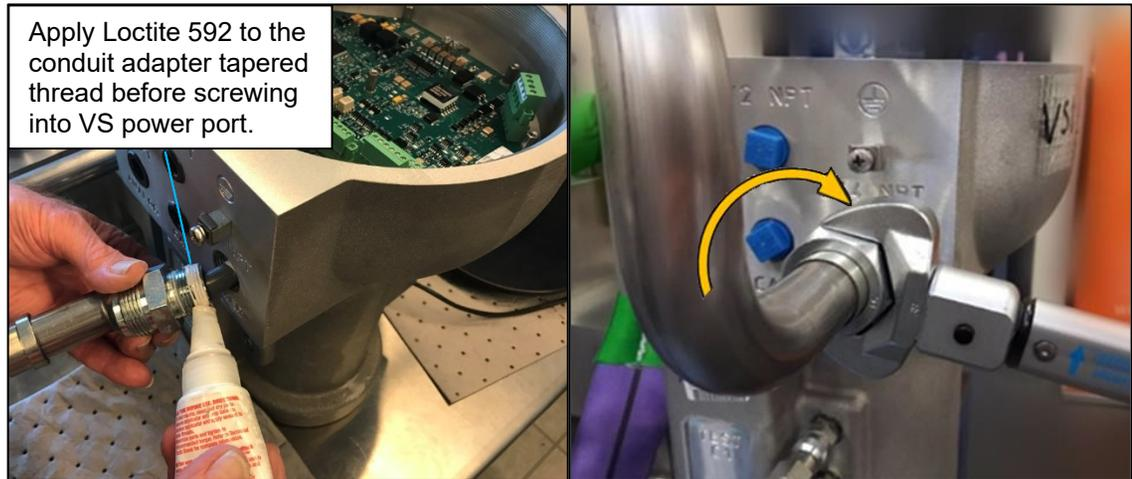

Figure 2-47. VariStroke Conduit Adapter Installation
18. Apply Loctite 592 to the previously cleaned tapered threads prior to assembly. Install the adapter into the servo's "power" port hole. Tighten installed fitting on the servo side to **62 ±6 LBFT (76 – 92 Nm)** (use 1 3/8 in open end wrench (Figure 2-47).
20. While holding the servo conduit fitting, tighten the conduit nut on the servo side to **114 ±14 LBFT (154 ±18 Nm)** (use 1 1/2 in open end wrench) (Figure 2-47).